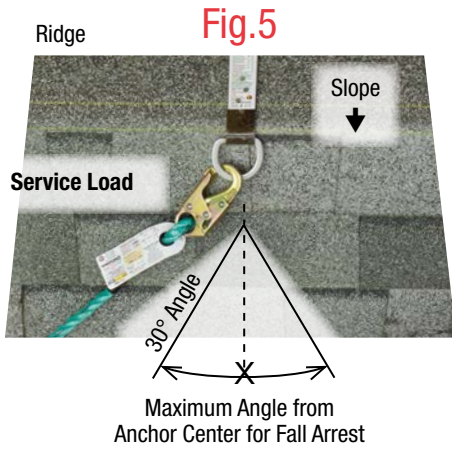

Fig. 5
**Fall Arrest:** When exposed to fall hazards or static loading the D-ring must remain in the service load position at all times as shown at Fig. 5, 10a. Do not exceed a 30° angle from the anchors parallel to slope position. See anchor spacing section.